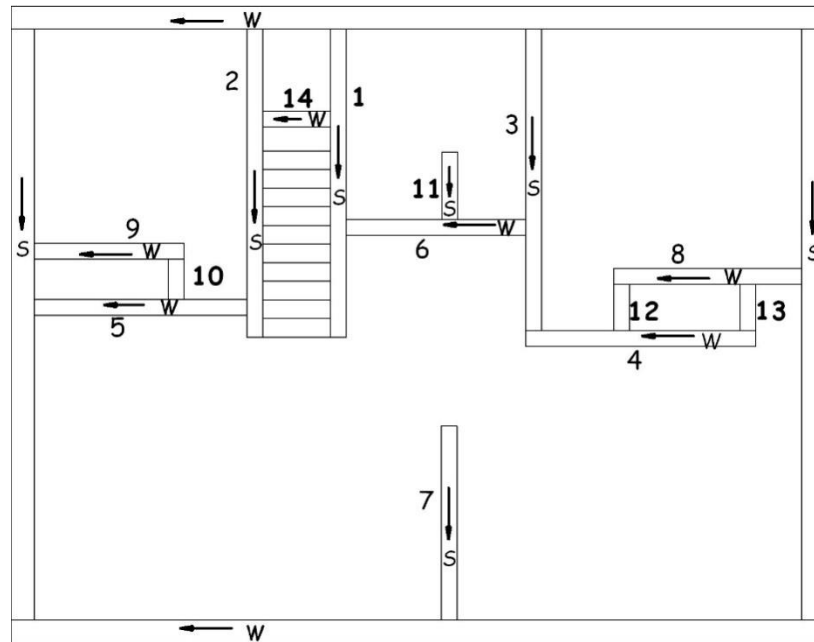

Figure 3-3. Plate Labeling Diagram.
1. Before cutting the wall plates, consult the Plate Layout Drawing to identify all full-length plates and any pre-defined plate lengths (hand-drawn on the printed plan). See Figure 3-3.